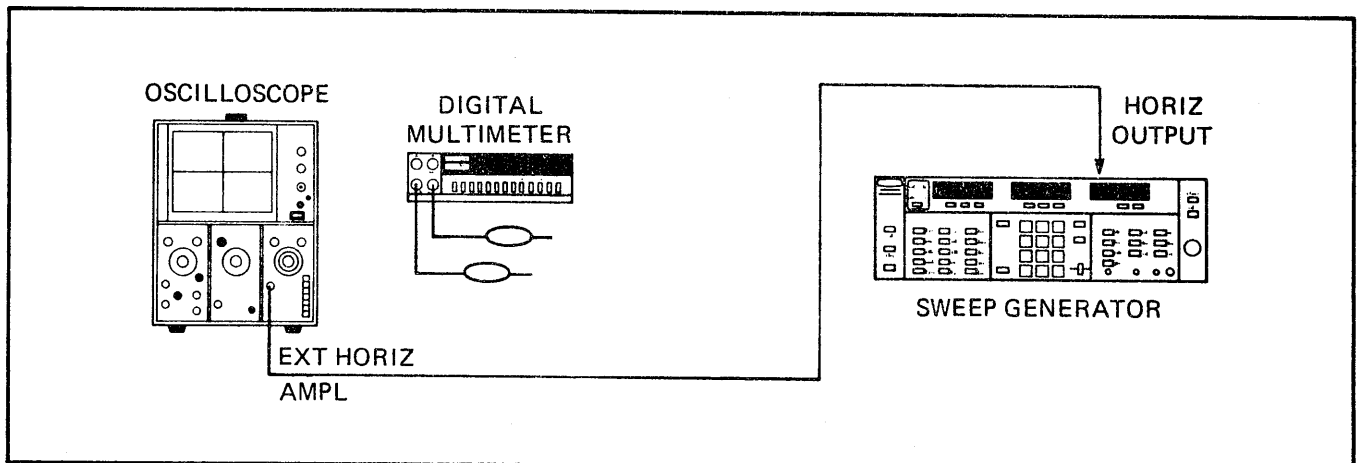

Figure 5-18. Test Equipment Setup for the A6-A9 YIG Driver Adjustments
- a. Set up the test equipment as shown in Figure 5-18, and turn the equipment on.